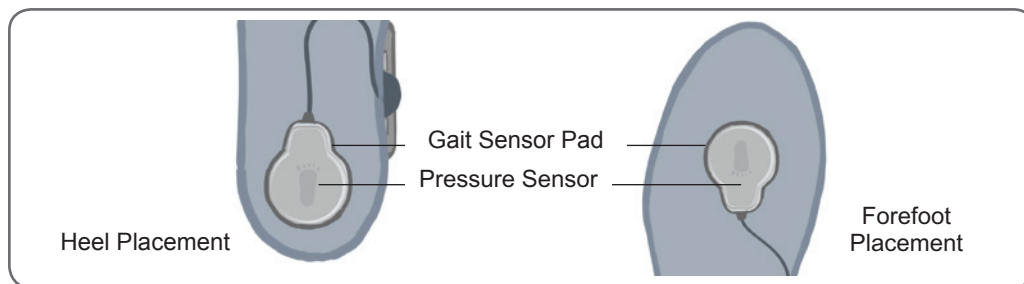

Figure 8-14: Positioning the Foot Sensor in the Shoe
4. For heel position placement point the wire of the Foot Sensor toward the toe of the shoe. For forefoot position placement point the wire of the Foot Sensor toward the heel of the shoe. Attach the pressure sensor to the Foot Sensor pad. See Figure 8-14.